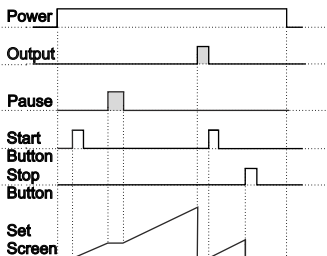

Figure 1.4
1.2.2 If Upcount $\boxed{INC}$ = 0 and $\boxed{OUT}$ is $\boxed{OFF}$ the control diagram is shown in Figure 1.4